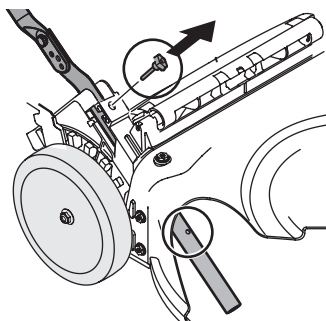
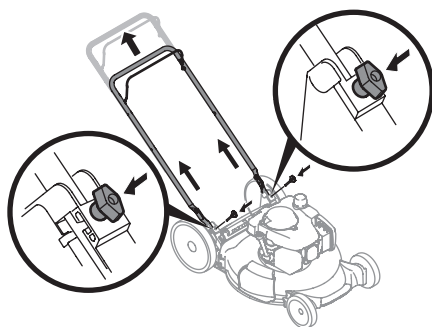

Figure 3
Figure 4
4. Remove T-bolts from the handle brackets (Figure 3).
5. Pull upward on the handle (Figure 4) until holes in lower handle line up with holes in handle brackets (Figure 3 deck cutaway).
- Insert the T-bolts removed in STEP 4 through the handle brackets and lower handle (Figure 4) and tighten securely to secure the handle in place.